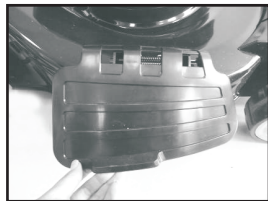

Fig. 9A
3. Lift sideward flap for side discharge. (Fig.9A)